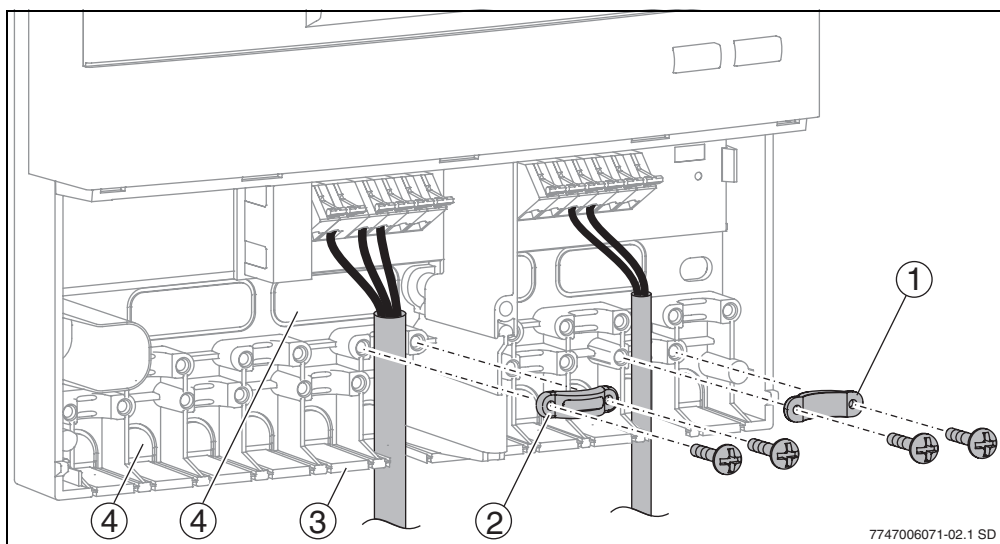

Fig. 5 Feeding in and securing cables
The cables can either be fed into the housing from behind (→ Fig. 5, item 4) or from below (→ Fig. 5, item 3).
- Use a knife to cut open the cable entry (→ Fig. 5) without leaving any jagged edges.
- Secure cables with the appropriate cable grips (→ Fig. 5, item 2). The strain relief clamp can also be fitted in the reverse position (Fig. 5, item 1).